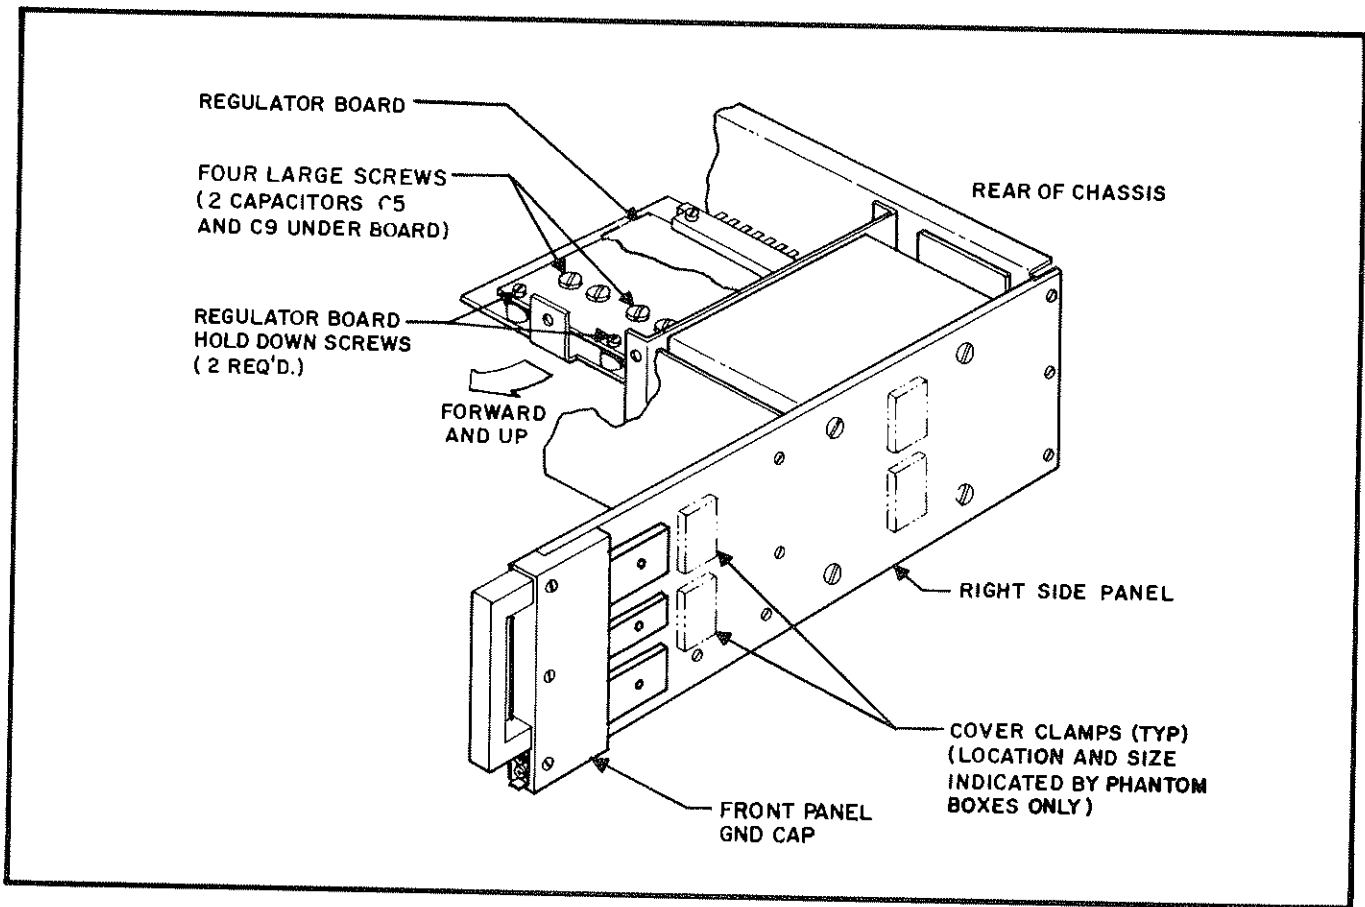
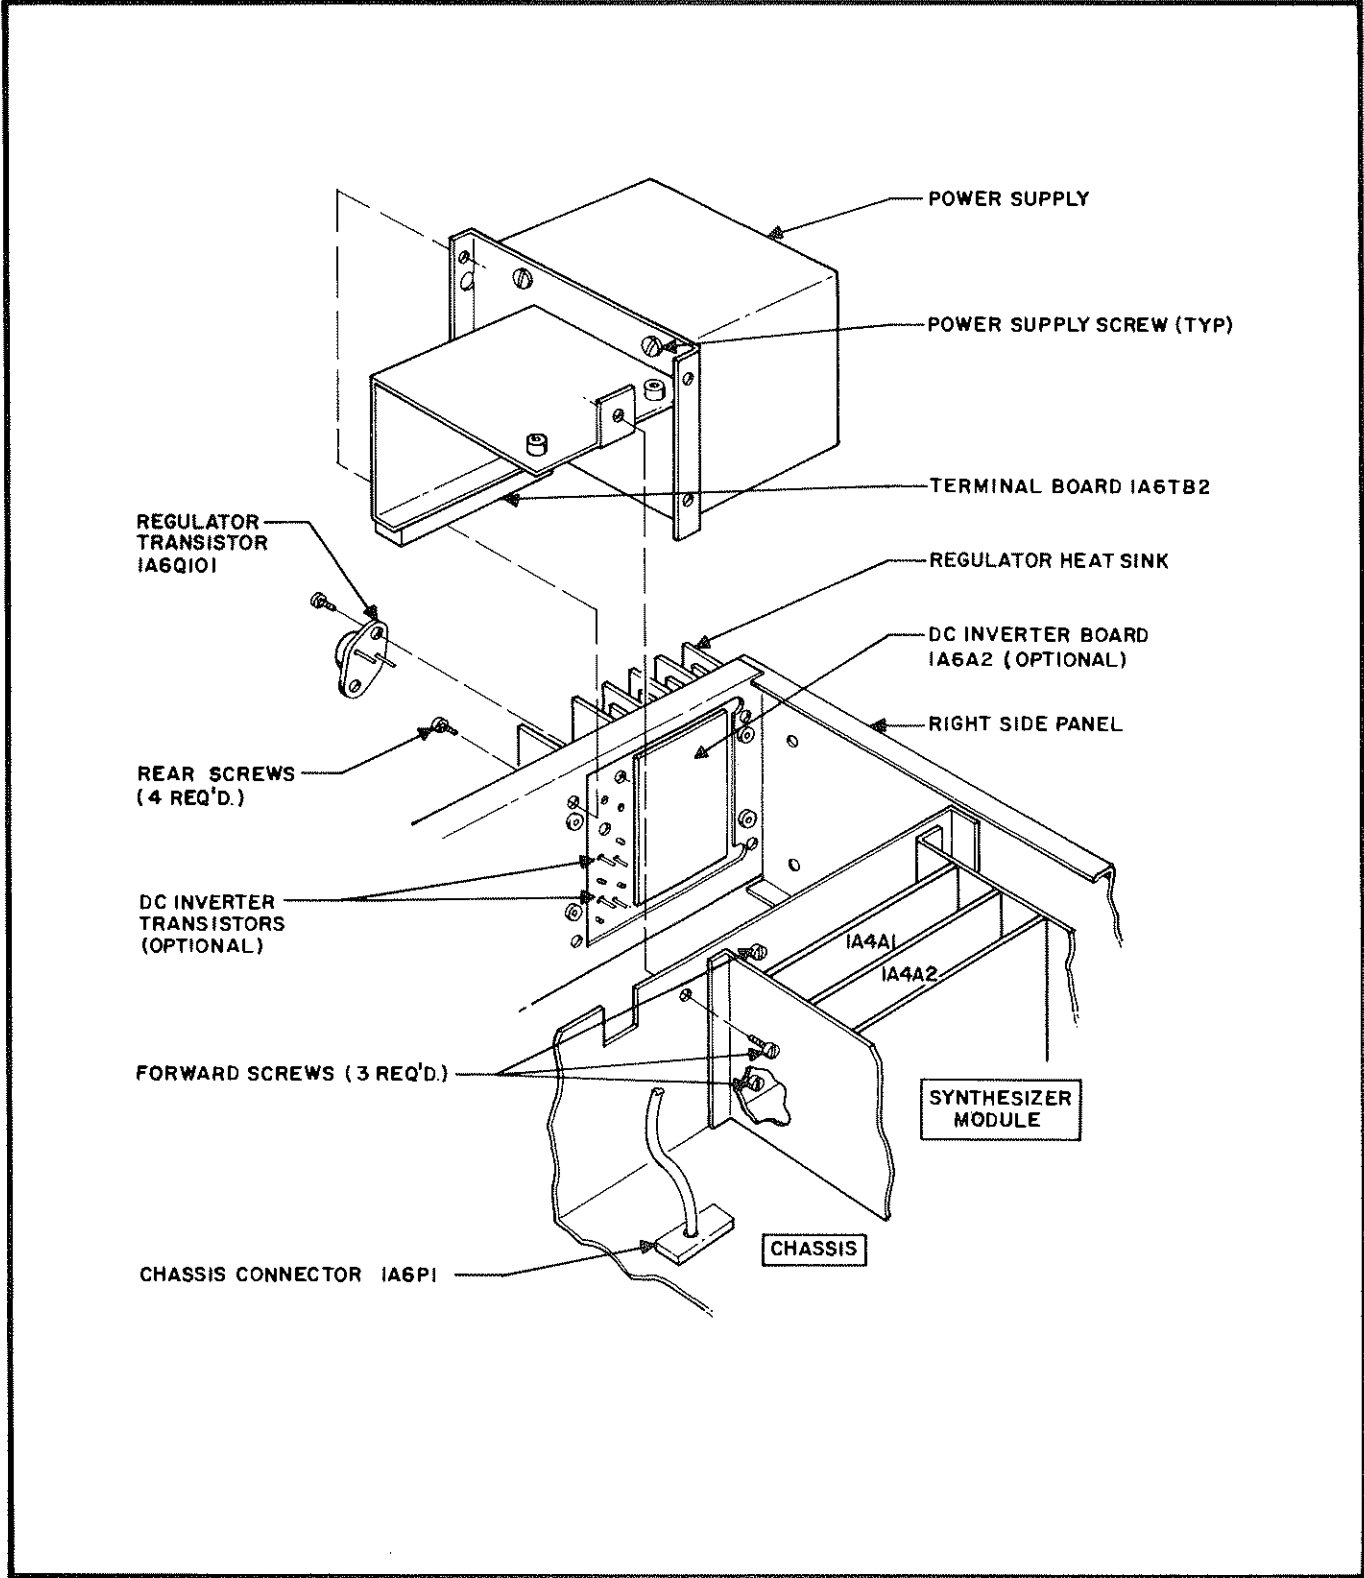

Figure 5.2 Power Supply Regulator Board (1A6A1)
Figure 5.3 Power Supply Removal (IA6)
5.8.3.2 To remove Regulator board (1A6A1), take out four large screws holding two capacitors (1A6A1-C5 and C9) as shown in Figure 5.2. Next, unfasten two hold down screws and pull the board forward and slightly upward to remove.
5.8.3.3 To take out the entire power supply from the chassis, remove only the screws, shown in Figure 5.2, from the RIGHT SIDE PANEL. DO NOT remove the cover clamps and their associated hardware. Unplug the connector, 1A6P1, from the chassis as illustrated in Figure 5.3. Re-